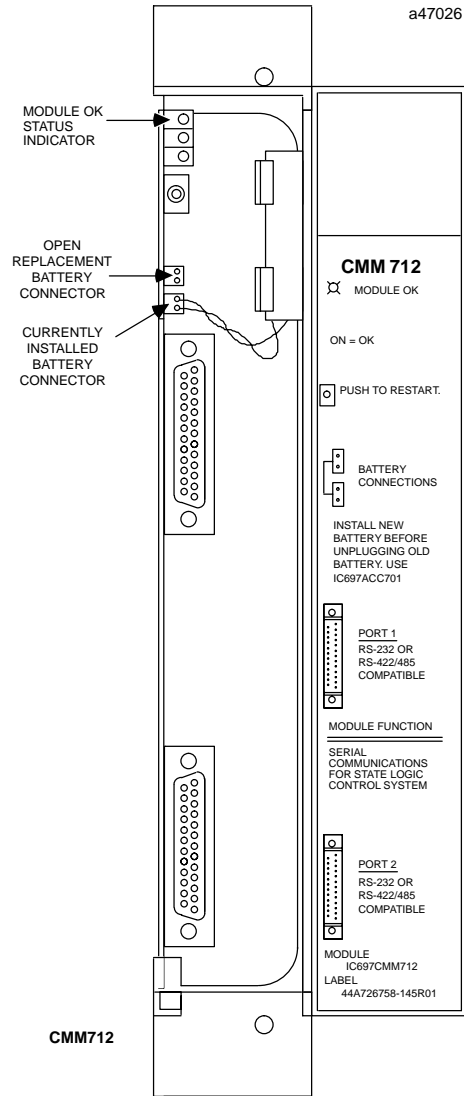

Figure 2. Serial Communications Module User Details
- Connect the battery to either of the battery connectors on the module. (See Figure 2)
One Status LED is available as shown in Figure 2. This LED indicates the condition of the module.
A lithium battery (IC697ACC701) is installed as shown in figure 2. This battery maintains serial port configuration information when power is removed. Be sure to install the new battery before removing the old battery. If during power-up diagnostics a low battery is detected the Module OK LED (top) will not stay on.